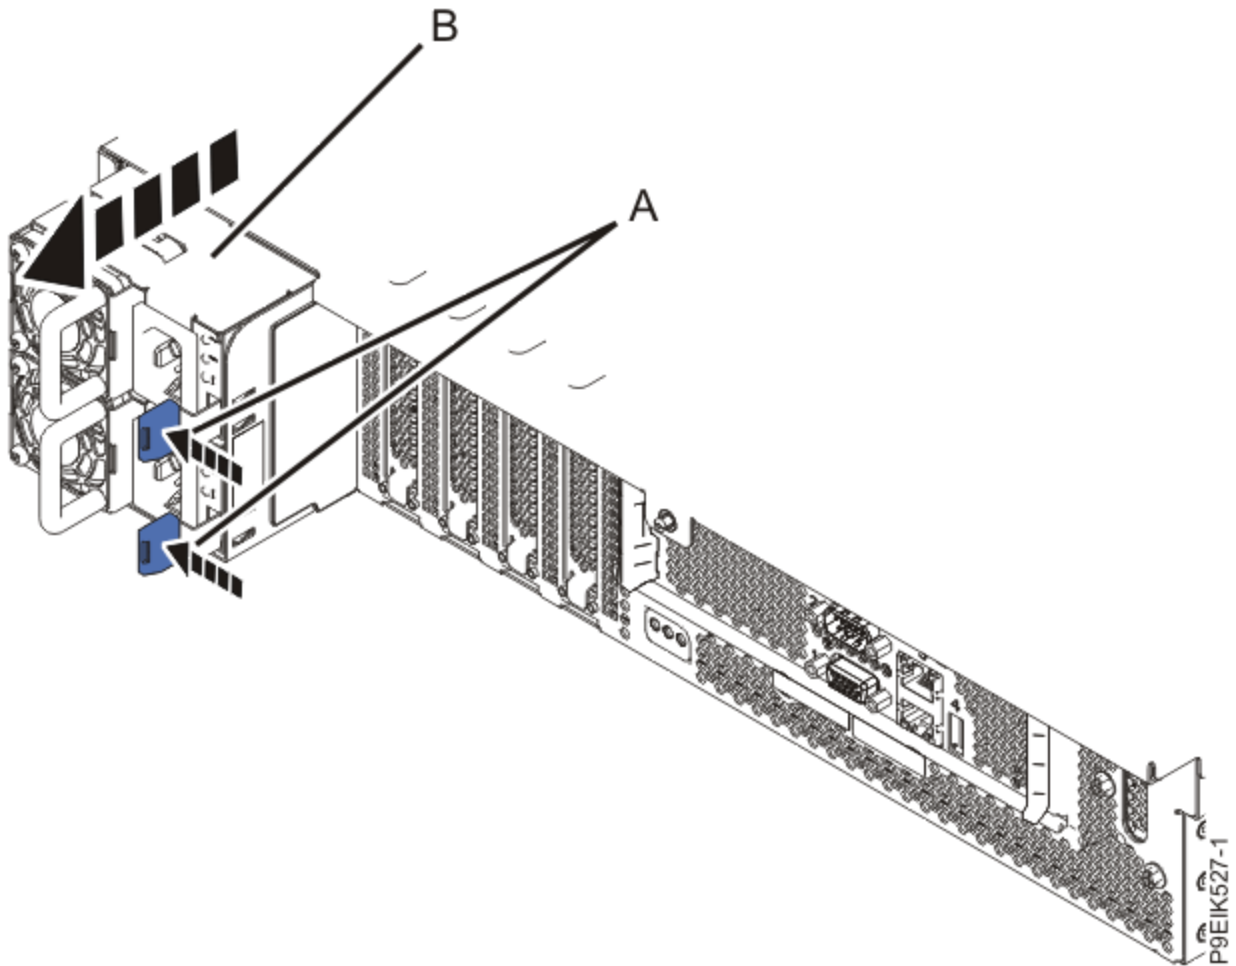

Figure 33. Removing the power supplies from the system
3. Remove the power supplies from the system as shown in Figure 33 on page 46.